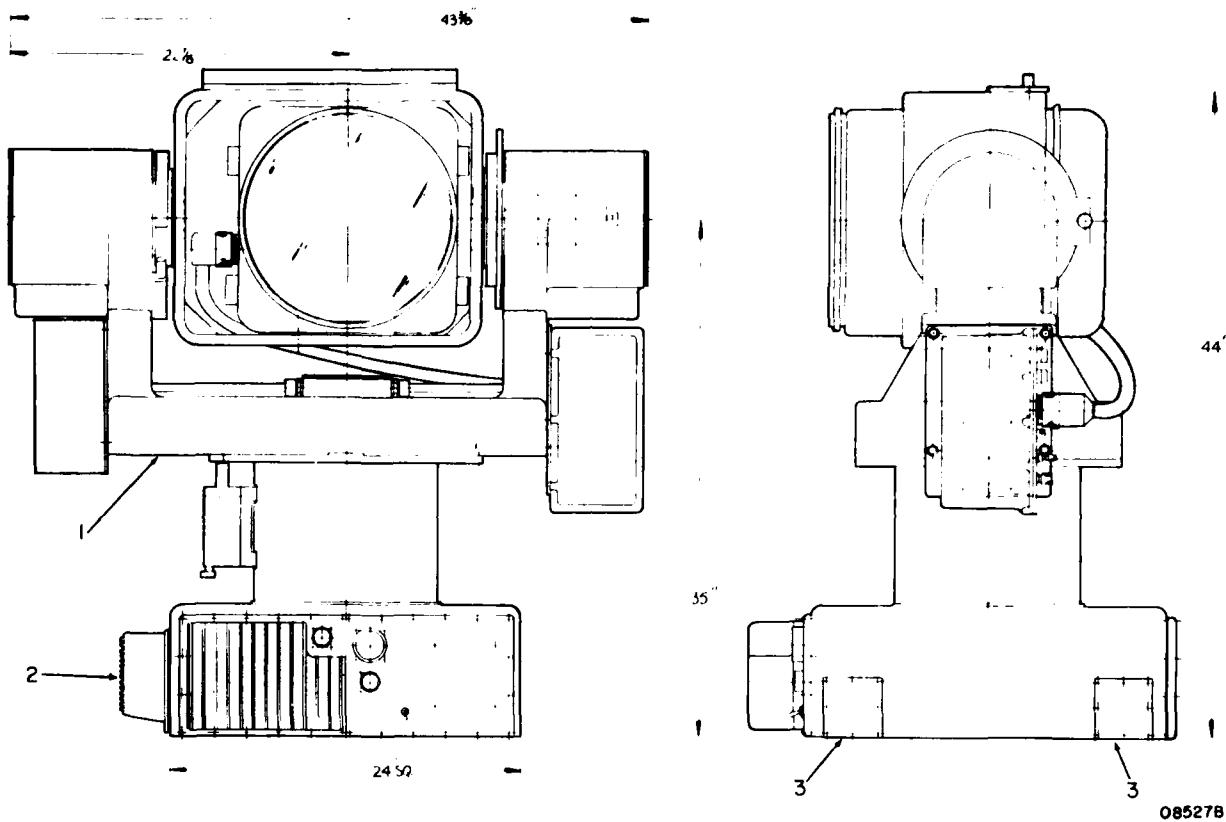
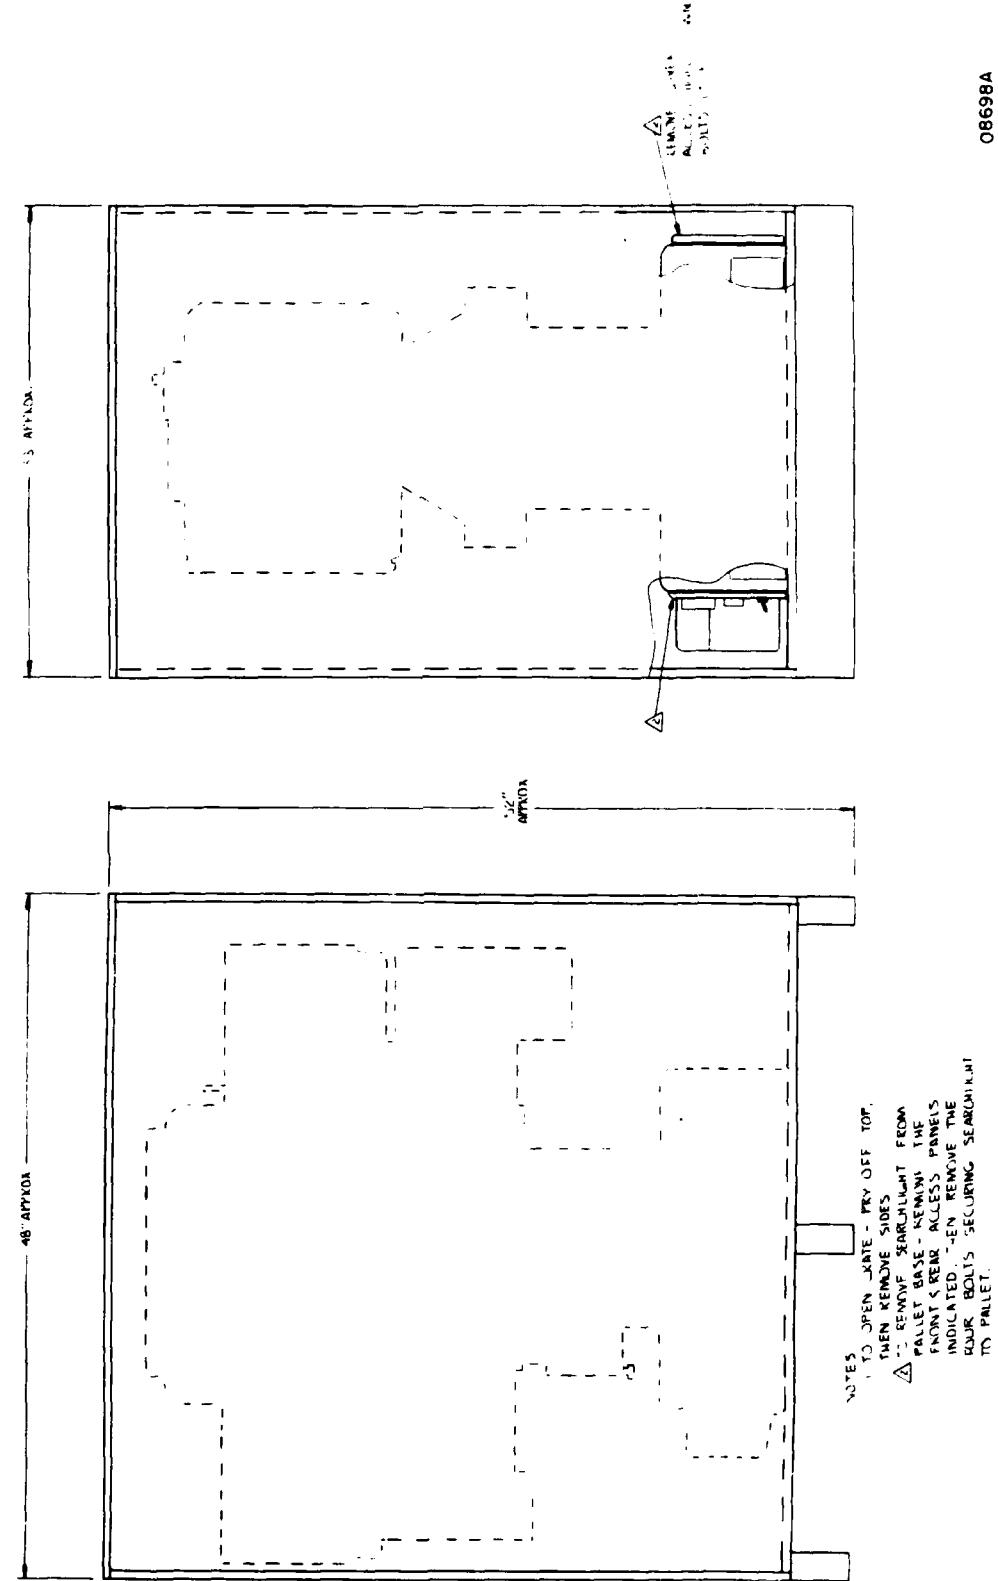

Figure 2.2. Positioner Installation Drawing
Figure 2.3. Positioner Shipping Crate
a. Hoist the positioner into place by nylon slings positioned under the horizontal member of yoke (1, Figure 2.2).
- b. Remove heat exchanger plenum chamber (2, Figure 2.2) at the left side of the base.
- c. Remove two small covers (3) at the opposite (right) side of the base.
- f. Hoist the positioner from the deck by nylon slings positioned under the horizontal member of the yoke (1).
- g. Place the positioner in a shipping crate similar to that shown in Figure 2.3.